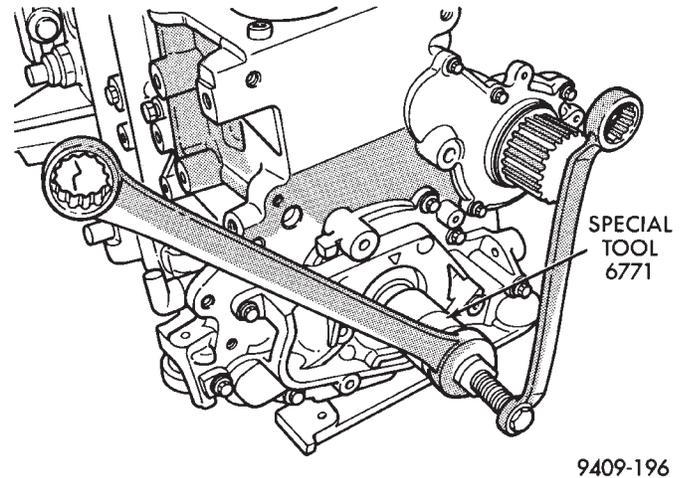

Fig. 55 Front Crankshaft Oil Seal—Removal
(4) Using Tool 6771 to remove front crankshaft oil seal (Fig. 55). Do not damage the seal contact area on the crankshaft.